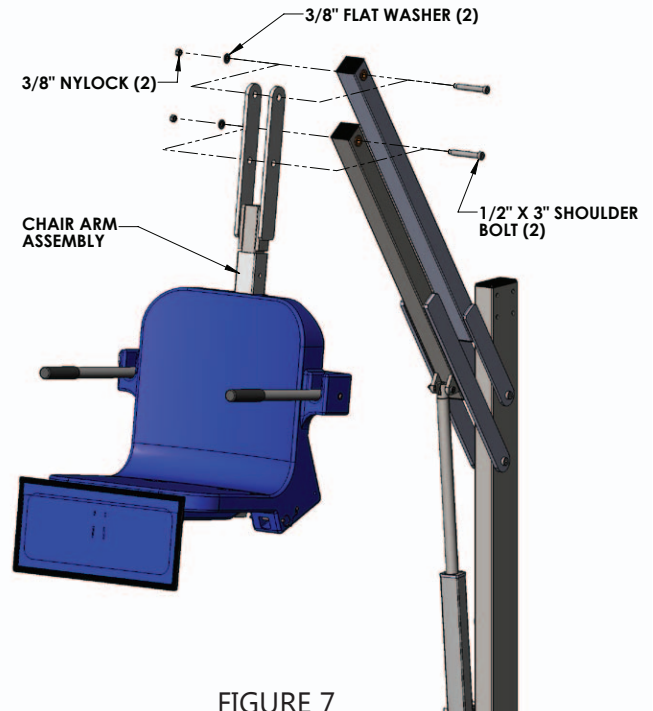

FIGURE 7
**6.** Connect the chair arm assembly to the lifting and control arms using the 1/2 inch shoulder bolts and 3/8 inch nylocks and flat washers. This may require two people. See FIGURE 7.